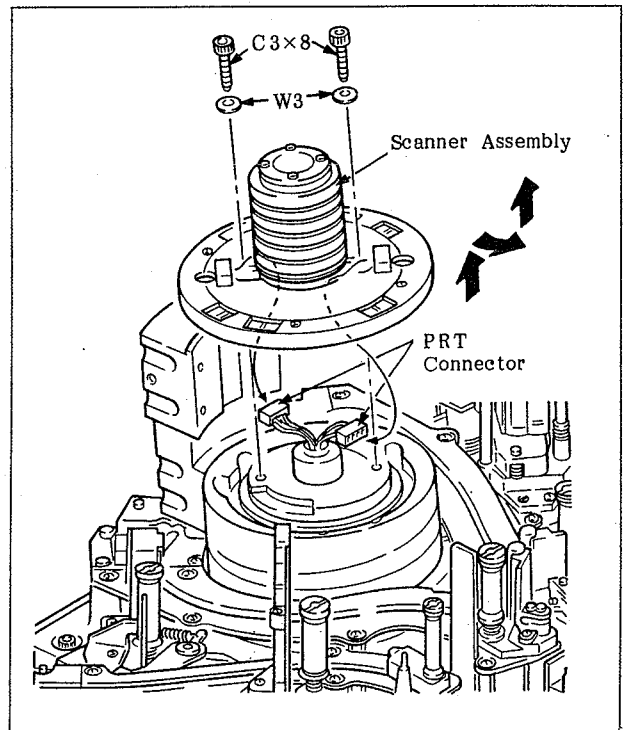

Fig. 6-3 Disassembling the Scanner Assembly
4. Disconnect the two PRT connectors and unscrew the two screws that fix the scanner assembly. Then, remove the scanner assembly as shown by the arrows in Fig. 6-3.
18. Unscrew the four screws and remove the head protect cover as shown by the arrows in Fig. 6-3.